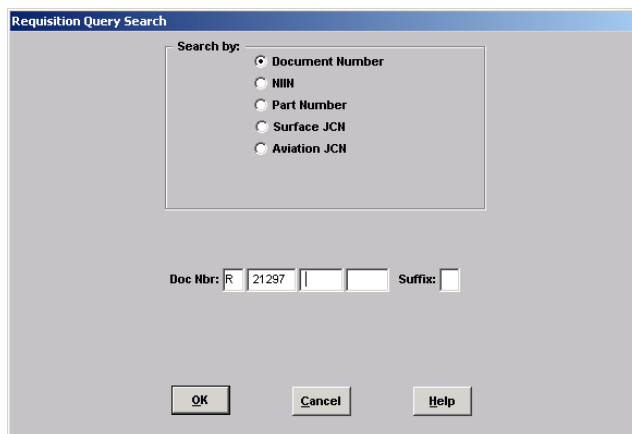

Figure 7.6
7.2.1 The **Requisition Query Search** window (Figure 7.6) searches for a specific Requisition.